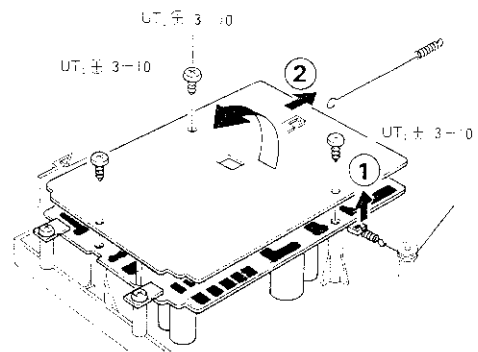

Fig. 6
- 2) Remove 2 springs. (Refer to Fig. 6)
- 3) Remove 3 screws. (Refer to Fig. 6)